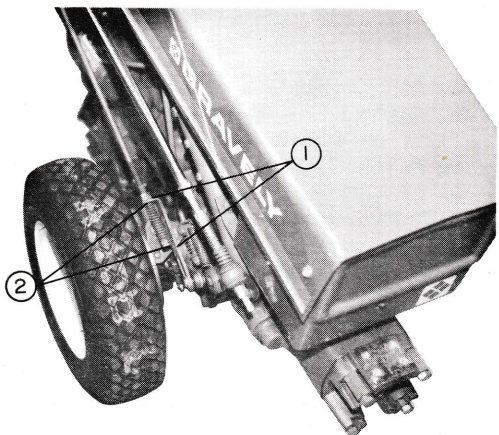

Fig. 5
1. Loosen the jam nuts on the right and left brake rods. See figs. 5 & 6.